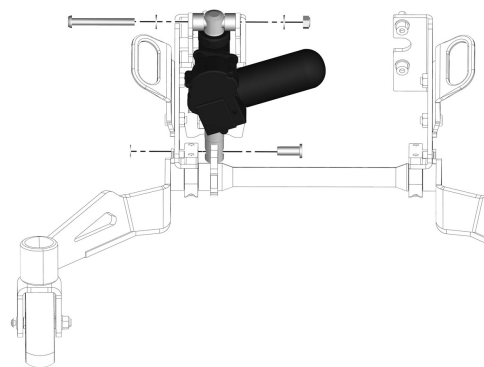

Figure 403. Support wheel unit.
5. Remove the actuator. It is attached with a pin and circlip at the bottom and a screw and nut at the top. See fig. 403.